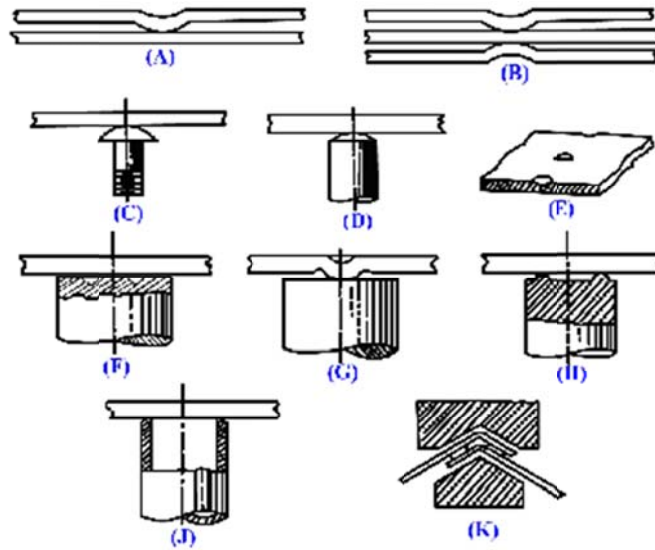

Fig. 4.2.6 Projection welded joints and variants
- Projection welding leaves no indentation mark on the free surface, a distinct advantage over spot welding when good appearance is required (Fig. 4.2.6).